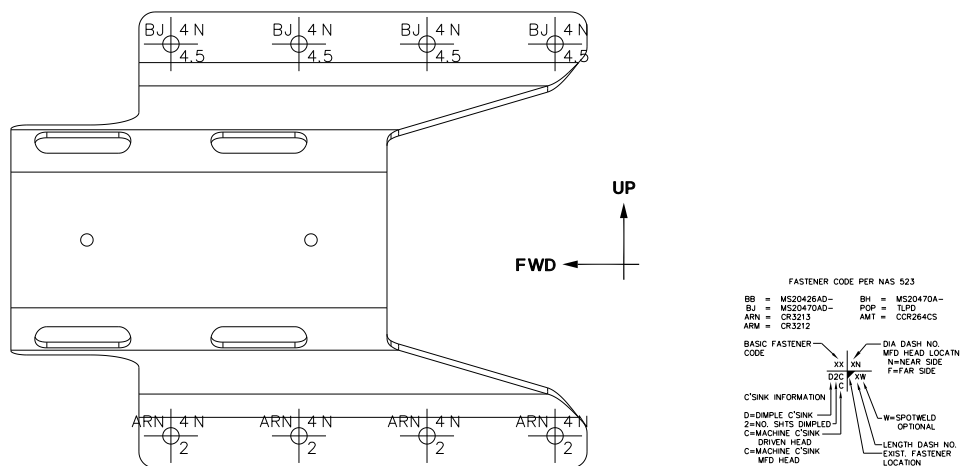

Figure 7: Installation of the fuel pump mounting bracket.
24. Position the new fuel pump mounting bracket (P/N GA8-532021-223) using the existing 1/8" diameter holes used by the previous bracket. Fasten the bracket using MS20470AD4-4.5 rivets for the upper flange, and CR3213-4-2 CherryMAX rivets for the lower flange, with rivet heads on the fuel pump mounting bracket, in accordance with figure 7.